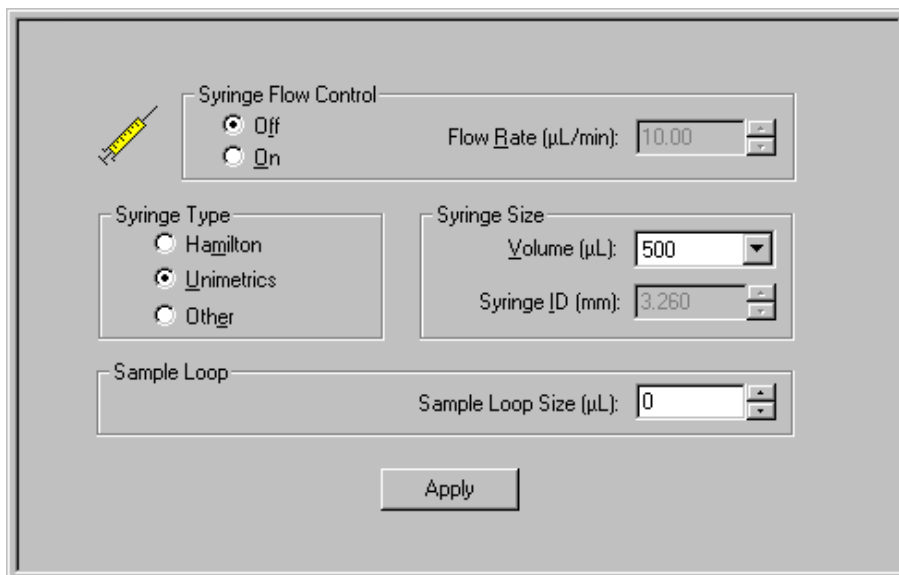

Figure 7-7. Syringe Pump and Sample Loop view, showing auto loop injection setup
- a. Choose **Setup > Syringe Pump & Sample Loop** to display the Syringe Pump and Sample Loop view in the top right corner of the workspace. See Figure 7-7.